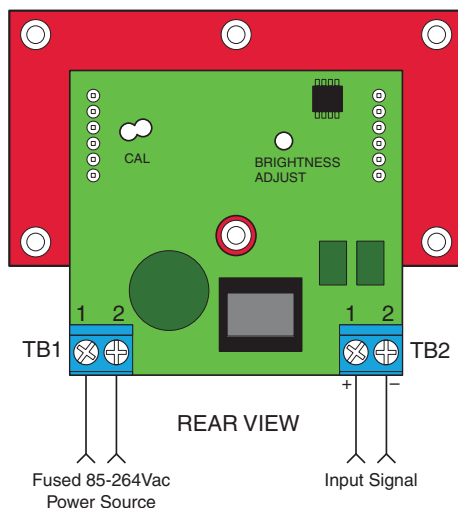

Figure 1. DMU-30ACV wiring diagram
3. Power Supply Polarity, Fusing, Wiring and Grounding: The power supply inputs (TB1-1 and TB1-2) on DMU-30ACV voltmeters are not polarity sensitive, that is, they have no "AC LO" or "AC HI" designations. These units do not include or require a connection to earth/chassis ground. Refer to Figure 1 for a typical wiring diagram.